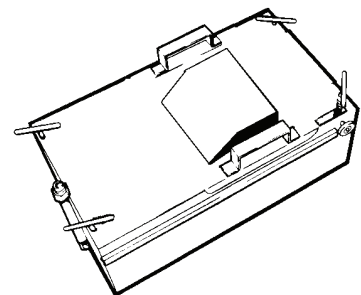

FIGURE 3. FILTER DRAWER COMPLETE WITH SCREEN, FILTER PAPER, HOLD DOWN RING, ACIDOX, STRAINER BASKET AND COVER.
6. Position hold down ring on top of paper and secure with T-Arms. Refer to Figure 3.
7. Position hold down ring on top of paper and secure with T-Arms. Refer to Figure 3.